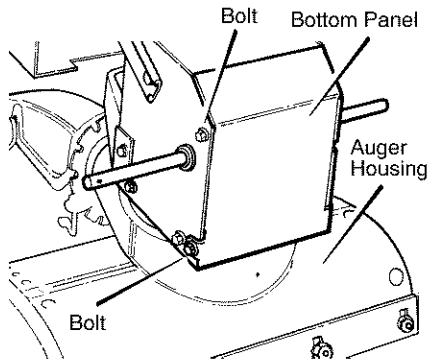

Figure 32
2. Loosen the **bolts** on each side of the **bottom panel** (see Figure 32).